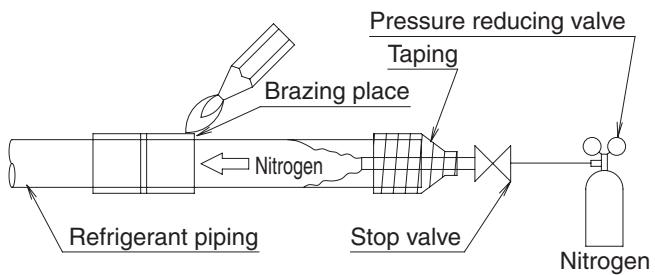

Fig. 13
- Before brazing refrigerant piping, have nitrogen flow through the refrigerant piping and substitute air with nitrogen (NOTE 1) (Refer to Fig. 13). Then, carry out brazing (NOTE 2).